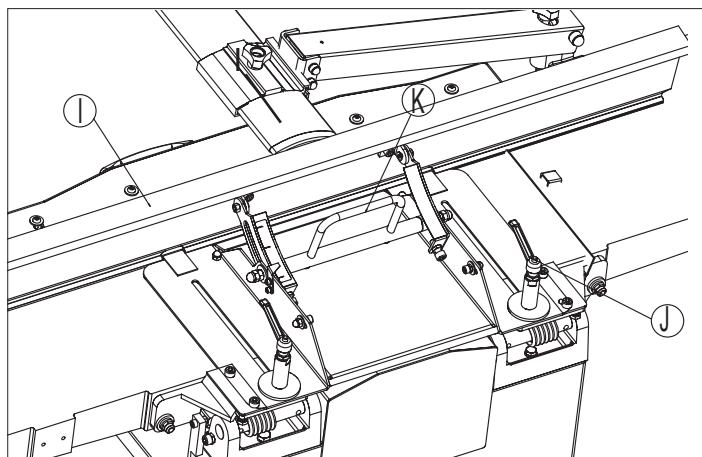

FIG. 9
The jointer fence (I, Fig.9) provides lateral support for the workpiece when surface planing.
- After loosening the lock lever (J, Fig.9) the jointer fence can be adapted to the workpiece width.
- After loosening the lock lever (K, Fig.9) the jointer fence extrusion can be tilted to the angle between 0° - 45°.